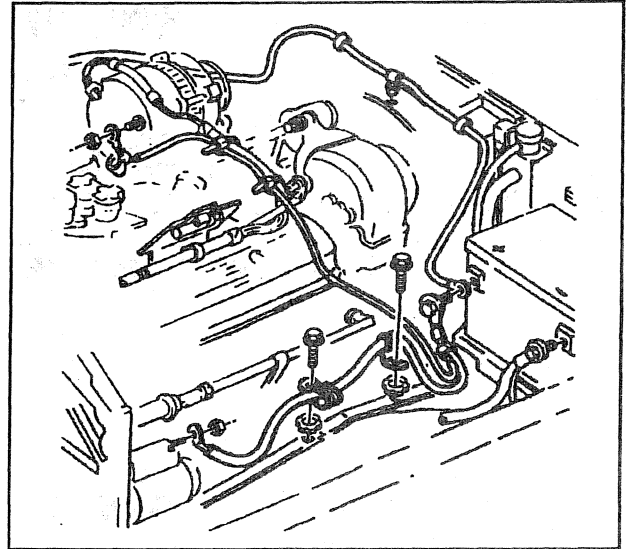

Figure 13—Battery Cable Routing (Gas Engines)
4. If the voltage drop in any of the above is more than 0.5 volt, there is excessive resistance in the circuit. To eliminate resistance, the cables should be disconnected and connections cleaned. If cables are frayed or the clamps corroded, the cables should be replaced. When selecting new cables, be sure they are the same length and diameter as the ones being replaced. Battery cable routing is shown in figures 13 through 15.